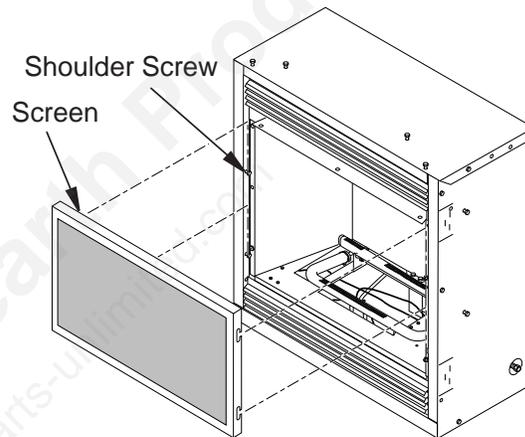

Figure 2 - Removing and Installing Screen
1. If equipped, lift fireplace screen up and pull out to remove (see **Figure 2**). Set screen aside until installation has been completed.